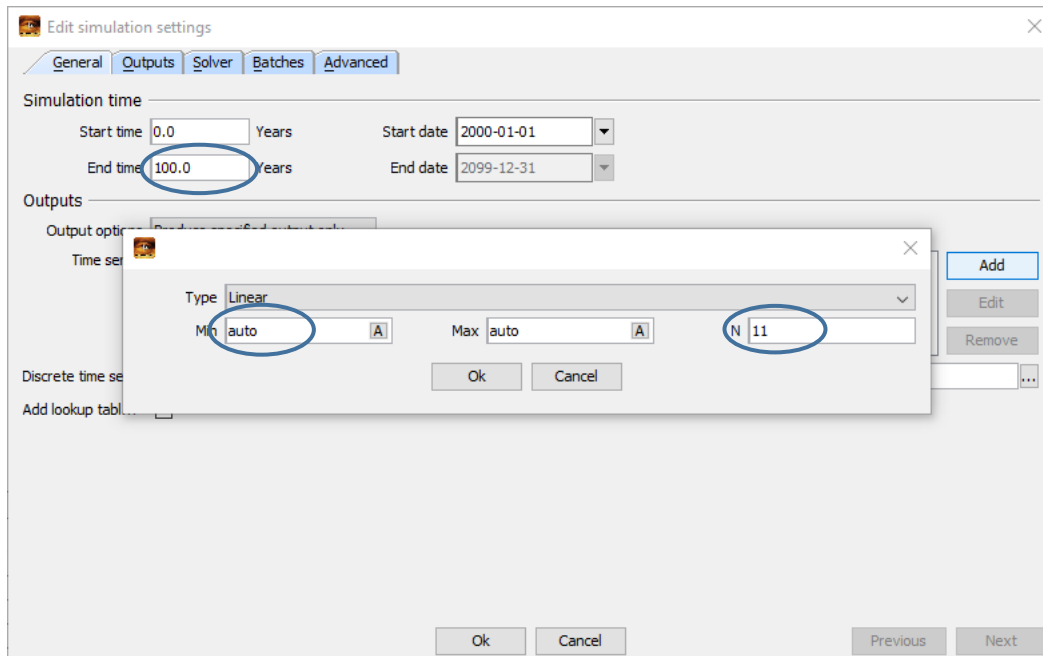

FIG 19. Adjusting of the ‘*Simulation time*’ and ‘*Outputs*’ parameters.
2. Check that the ‘*End time*’ is 100.0 (‘*Years*’) (FIG 19).
4. Press ‘*Add*’ button at the right side of the ‘*Outputs*’ window, choose ‘*Linear*’ type of output in the menu that appears, and set ‘*N*’ parameter specifying the number of output times to “11” (see FIG 19). (The output time step is calculated as (‘*Start time*’ – ‘*End time*’)/(*N*-1)). Press ‘*Ok*’ button to close the window (s).